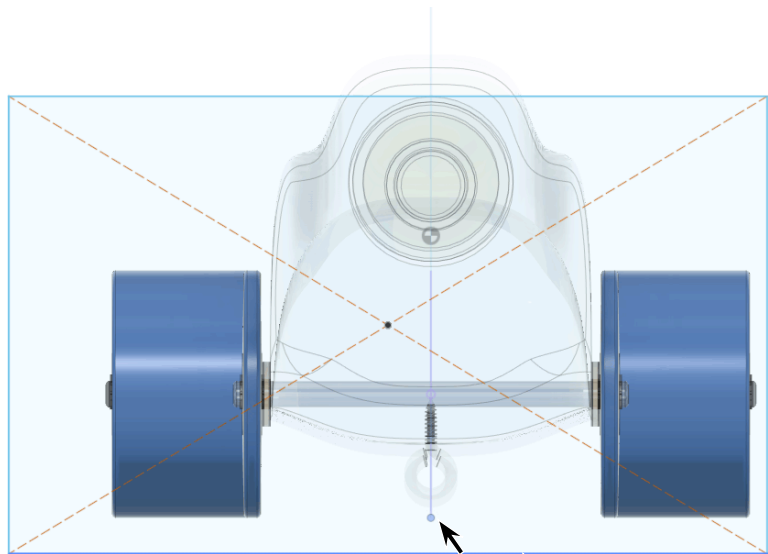
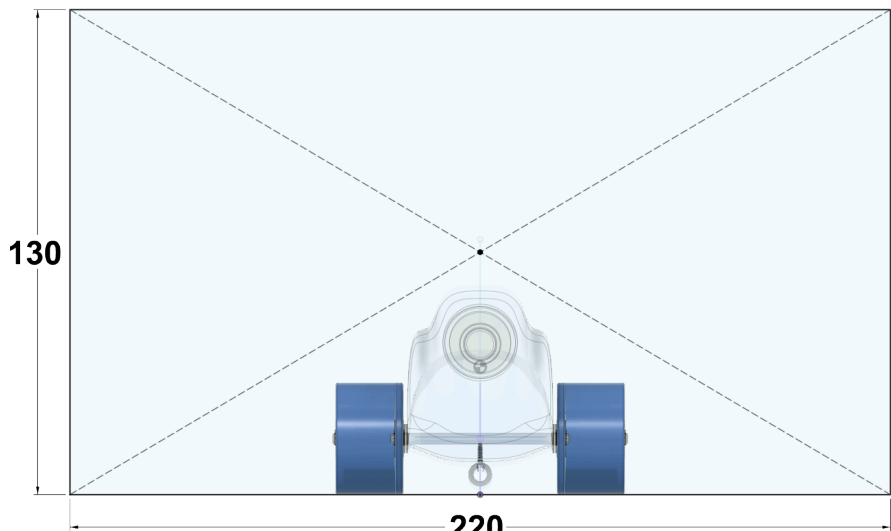

Fig. 6
Fig. 7
Step 10. Click **Midpoint**  in the Constraints panel of toolbar and click **bottom endpoint of vertical line in Sketch7** and **bottom horizontal line**, **Fig. 6**.
Step 11. Click **Dimension**  (D) on the toolbar.
Step 12. Add dimensions, **Fig. 7**.